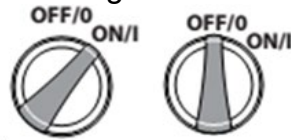

Fig.10
5. Place the power switch in the "ON" position (Fig.10).
2. Place the switch in the "OFF" position (Fig.10).
2. Turn the ignition switch to the "OFF" position. (Fig.10)